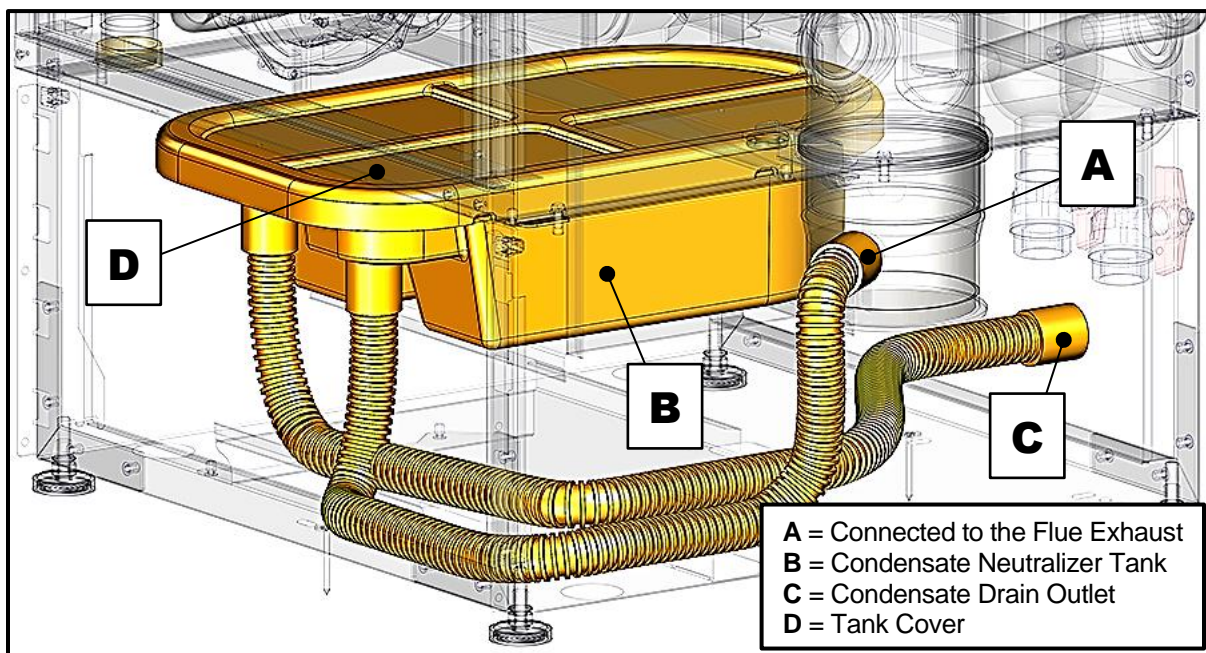

Figure 5-2: Condensate Neutralizer Tank (Unit Transparent for Clarity)
The condensate trap (Fig. 5-2, item “B”) MUST be filled with water or combustion gases will enter the room. The condensate neutralizer tank must be installed into the unit exactly as shown in Figure 5-2. Do NOT remove the condensate neutralizer tank from its position while the unit is in operation, as this will result in dangerous carbon monoxide escaping and creating a very dangerous situation.
In newer units, hose “A” (Fig. 5-2) attaches to a port at the bottom of flue, rather than the side.
- slope the condensate tubing down and away from the boiler into a drain or drain pan (See Figure 4-9). Condensate from the boiler will be slightly acidic (around pH 4). The neutralizing tank (see Figure 5-2, item “B”) is built into the boiler and will neutralize the condensate products;